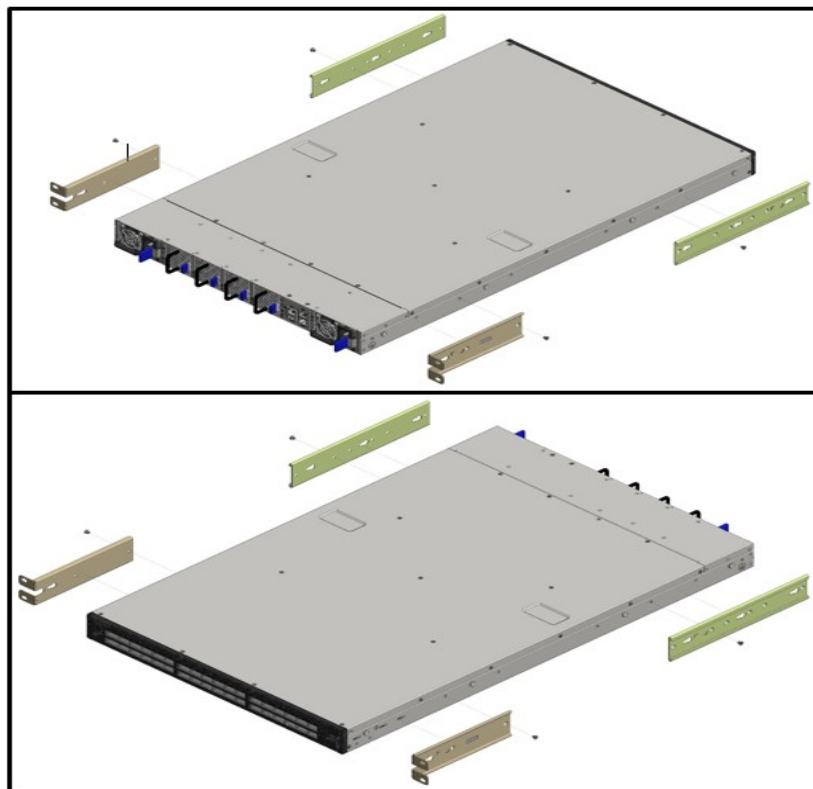

Figure 8: Installation options
- Connector (front) side inlet to power side outlet - marked with red power supplies/fans FRUs' handles, as shown in Figure 8.